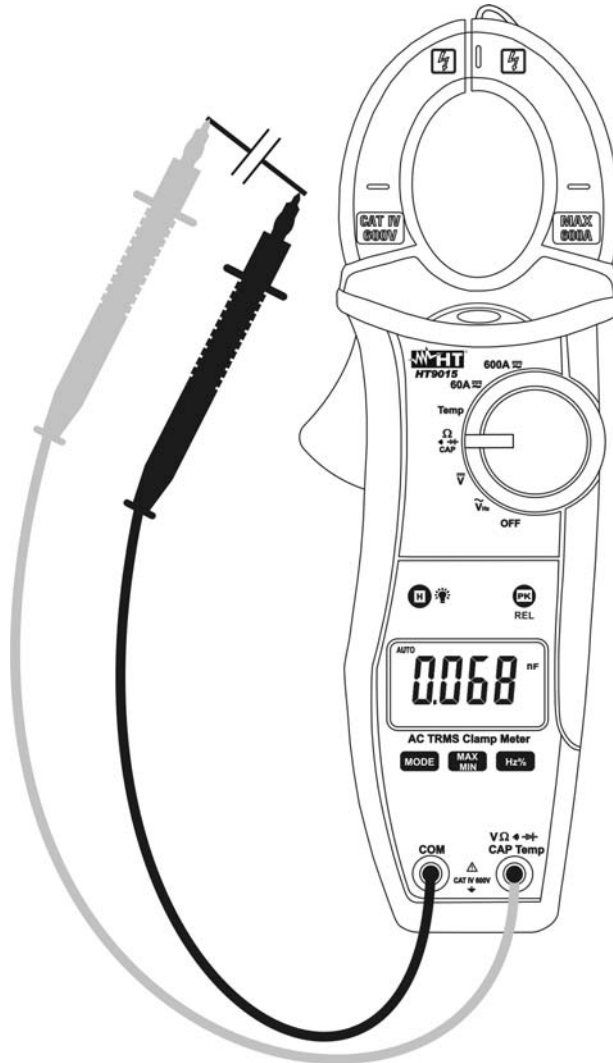

Fig. 7: Taking Capacitance measurement
3. Insert the red test lead plug into $V\Omega \cdot \mu \text{V}$ $\rightarrow$ **CAPHz%Temp** jack and the black test lead plug into **COM** jack (Fig. 7)